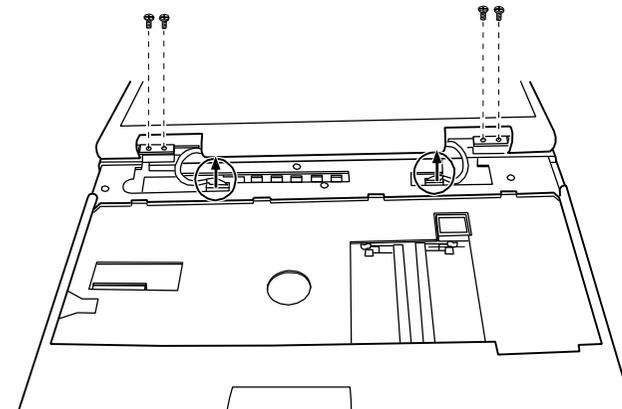

Figure 5-23. Unplugging two Cables and Removing Four Screws
1. Attach the LCD assembly to the base unit and secure with four screws on the hinges. Then reconnect the LCD cables to the system board. (Refer to Figure 5-23.)